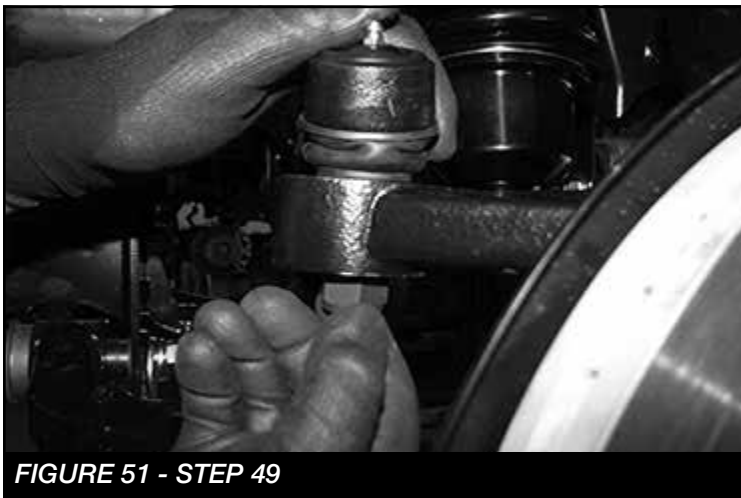

FIGURE 51 - STEP 49
49. Reconnect the tie rod end to the steering knuckle and torque to 60 ft-lbs. **SEE FIGURE 51**